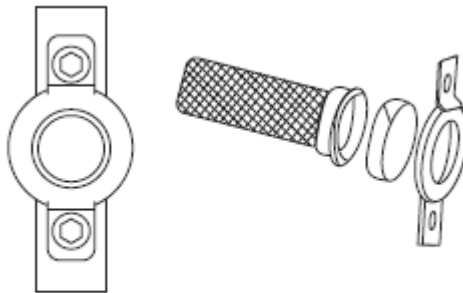

Figure-16 Spark Arrestor Screen
- * To service spark arrestor **See figure-16**. Remove the clamp to remove retainer.